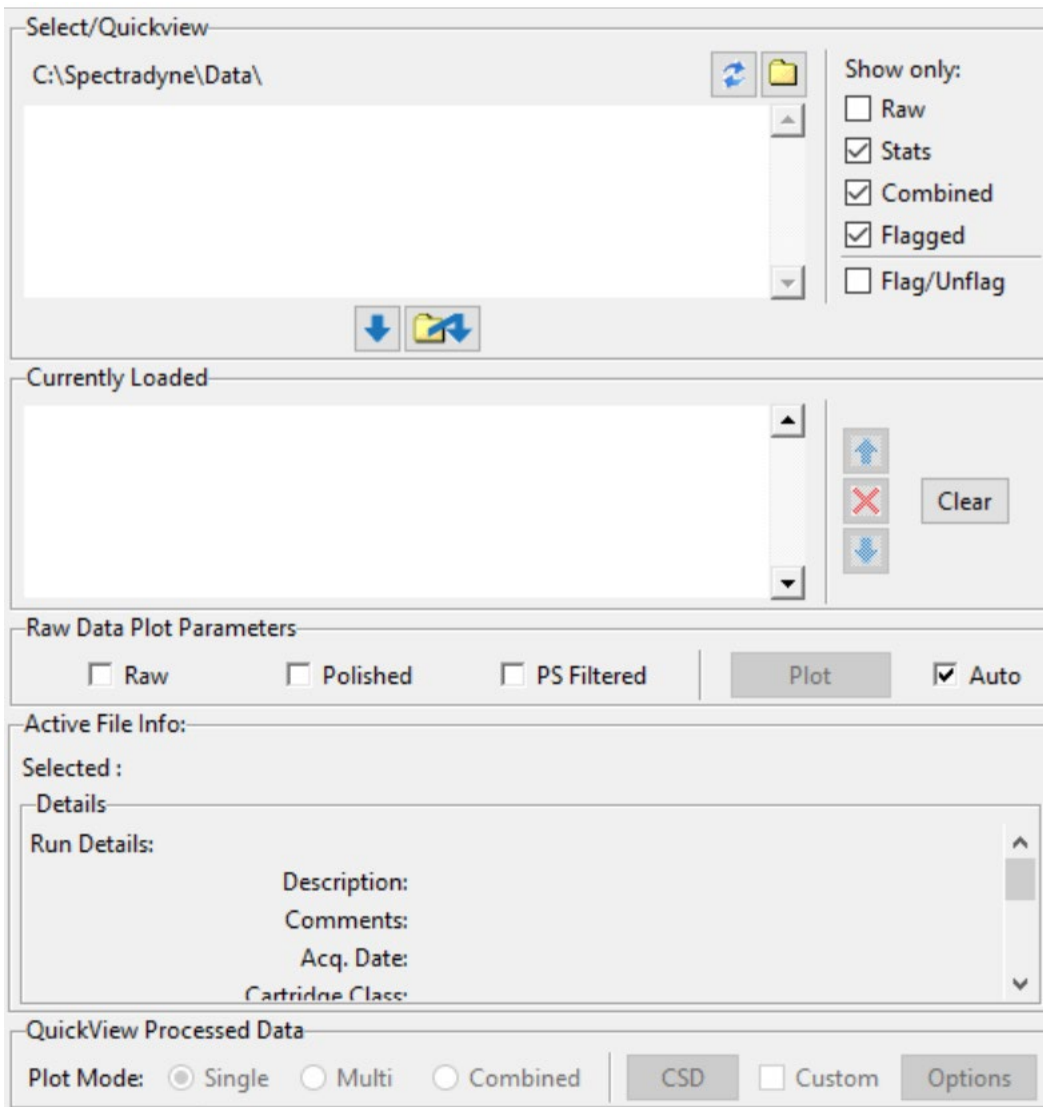

Figure 4. Screenshot of the main data processing software screen (without files loaded for analysis)
- 6.2.1 To begin, all collected raw data files must be processed to begin data analysis. Figure 4 contains a screenshot of the main data processing screen in the nCS1 data processing software.
6.2.2.1 There are three options to view CSD data – single, multiple, or combined. The single option will only pull up the CSD file highlighted. The multiple option will pull up all loaded CSD files and overlay them. The combined option will combine all loaded CSD files into a single trace. These options can be seen in Figure 4.